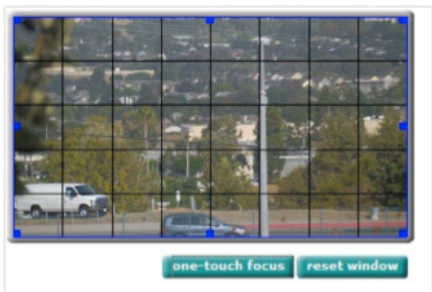

Figure 23
- 12. When the lens adjustments are complete, reinstall the lens cover and tighten the two (2) screws with the supplied Allen wrench. It is not necessary to apply significant force to tighten the lens cover screws. Once they are snug, turn an extra 1/2 turn beyond snug.
- 13. On the Focus tab click the One-Touch Focus button to focus the video image (Figure 23).